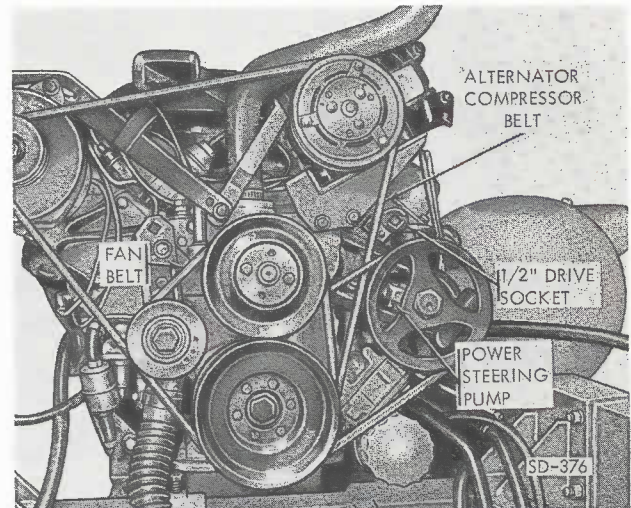

Figure 4-20. Belt Adjustment
**e. Alternator (fig. 4-20).** Alternator on coach does not require lubrication. It is recommended that the alternator-compressor drive belts be checked frequently for proper tension. Belts should not be worn or frayed. Proper alternator-compressor belt tension is 50 - 60 pounds measured on a belt tension gage. Tighten belt by inserting a pry bar between engine block and alternator, loosen alternator bolts, and move alternator until belts are tight. Tighten bolts securely against bracket.
**f. Power Steering Pump (fig. 4-20).** Check power steering pump belt frequently for proper tension. Belt should not be worn or frayed. Proper belt tension is 60 - 80 pounds measured on a belt tension gage. Tighten belt using a 1/2" socket in square hole top of bracket.